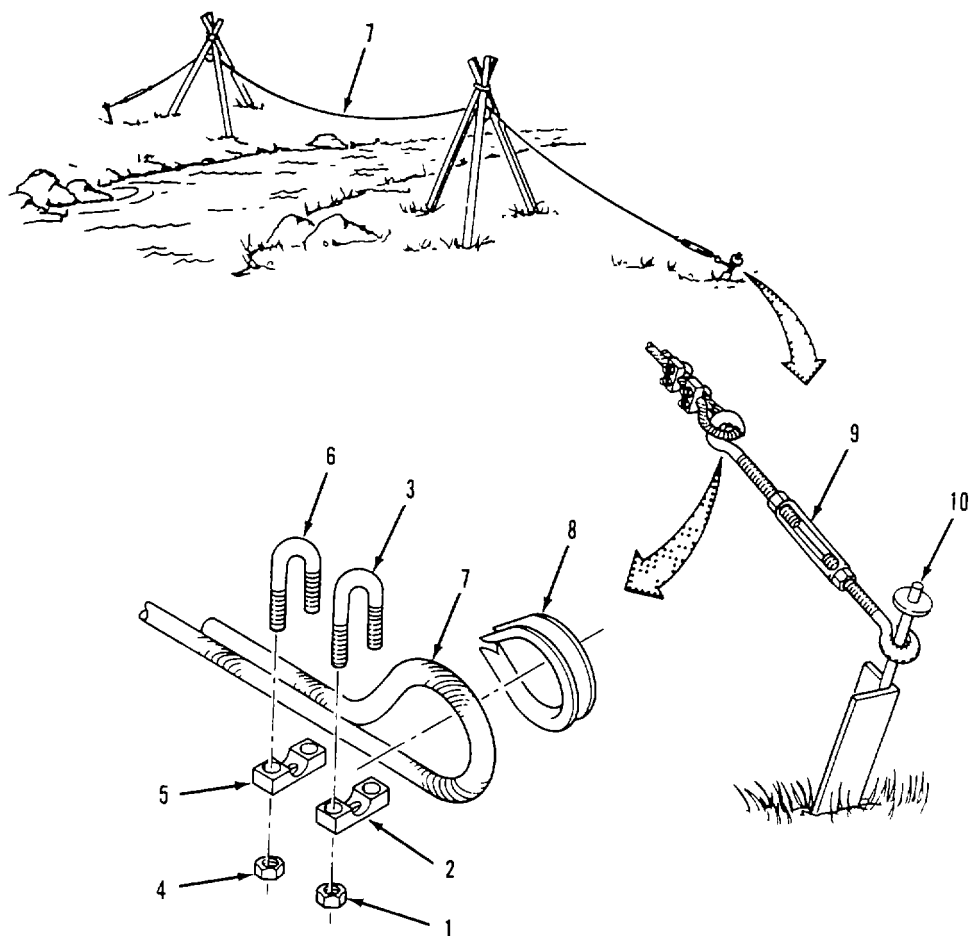

Figure 2-34. Wire Rope and Turnbuckle Disassembly
*Disassemble Wire Rope and Turnbuckles Refer to figure 2-34.*
- (9) Loosen turnbuckles (9) at both ends of wire rope (7).
- (10) Disconnect wire rope (7) from turnbuckles (9).
- (27) Push up on toggle levers (19) and lock retaining brackets (18) against metal rims (15).
- (28) Repeat steps (17) through (28) until entire hose length (1000 feet) has been packed in flaking box.
- (29) Remove pullboard (11), hoist (12) and retaining brackets (18) from flaking box (14).
- (30) Remove nut (1, figure 2-34) and eyebolt (2) from front wall of flaking box (4).